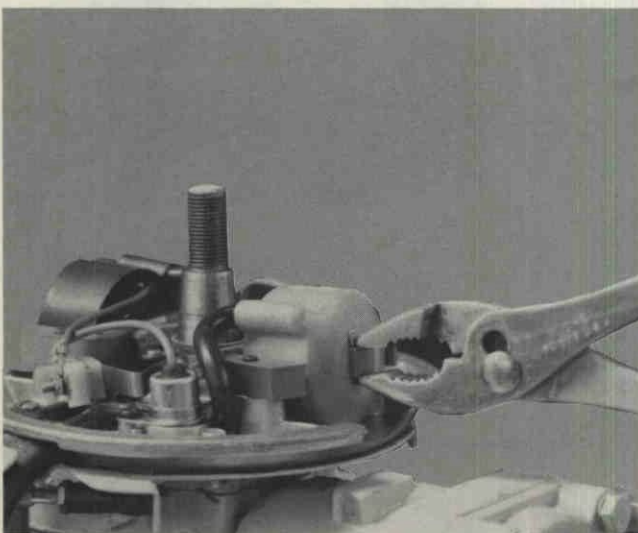

Figure 34. Straightening Coil Laminations.
5. Straighten coil lamination retaining coil as shown in Figure 34.
4. Push coil remainder of way on laminations until coil wedge spring snaps into place at rear of laminations. Large lip on coil wedge spring must be positioned over front coil surface. Bend bottom coil lamination to retain coil. Figure 34.